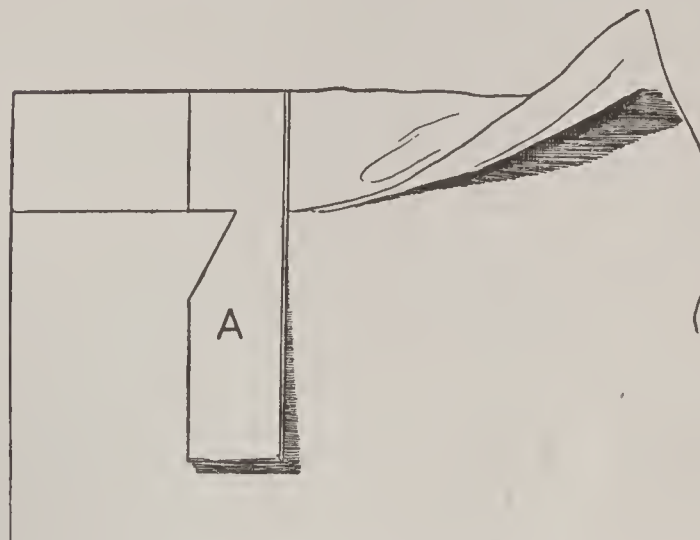

Fig. 12. Measure Your Hem to Keep It Same Width.
Hemming. Use a card cut like (A) in Fig. 12, for measuring hem width and keeping it even. Turn in the